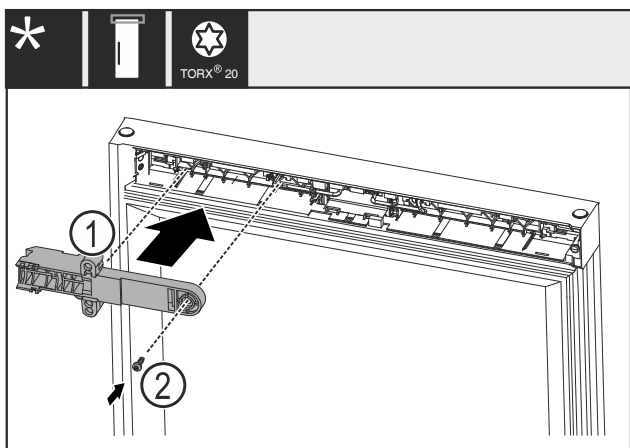

Fig. 23
- ▶ Turn the lock holder Fig. 23 (1) by 180° and attach on the opposite side.
- ▶ Fasten the lock retainer Fig. 23 (1) with a screw Fig. 23 (2).